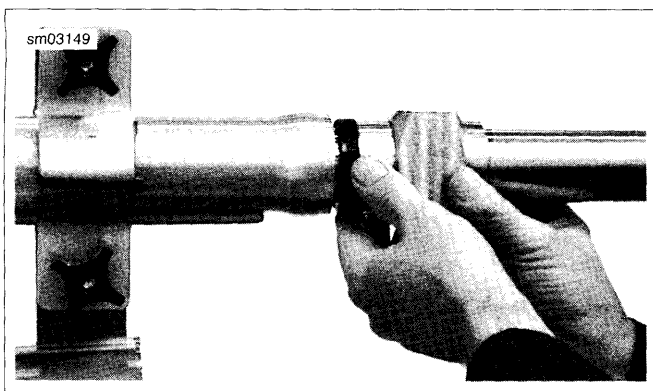

Figure 2-168. Install Bushing, Spacer, and Install Fork Seal in Place with Seal Driver
9. See Figure 2-168. Assemble the FORK SEAL DRIVER (Part No. B-42571) over fork slider in front of oil seal with the long end of tool facing seal. Install parts in the following order: bushing, spacer, and drive fork seal into fork tube bore with tool until tool is flush with fork slider.